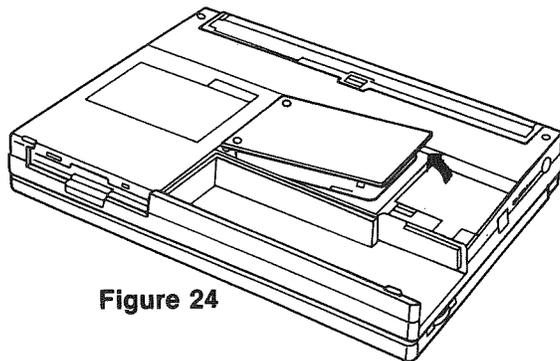

Figure 24
- (5) Carefully raise the HDD as shown in Figure 24.